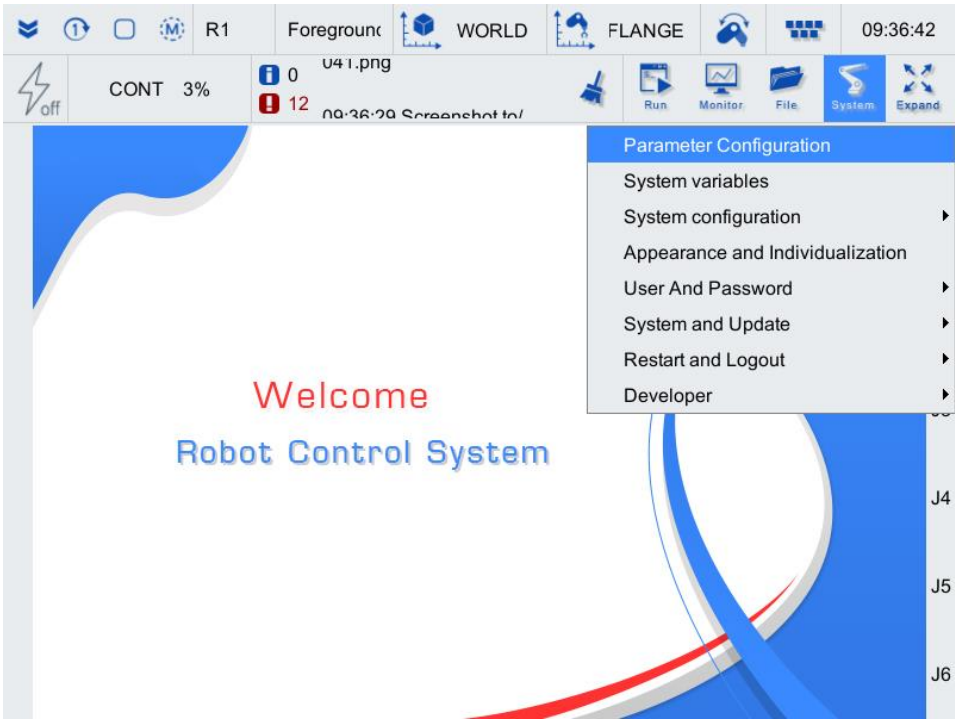

Figure 5-28 System related dropdown list
Step2. Click on [System/Parameter Configuration] in the upper right corner menu area, as shown in Figure 5-28.